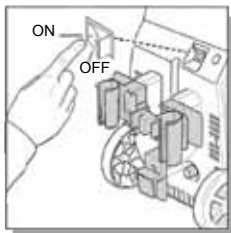

Fig. 15
- Make sure the "ON/OFF" switch is in the "OFF" position. The power switch has international symbols for 'on' and 'off': On (—) Off (O). (Fig. 15)